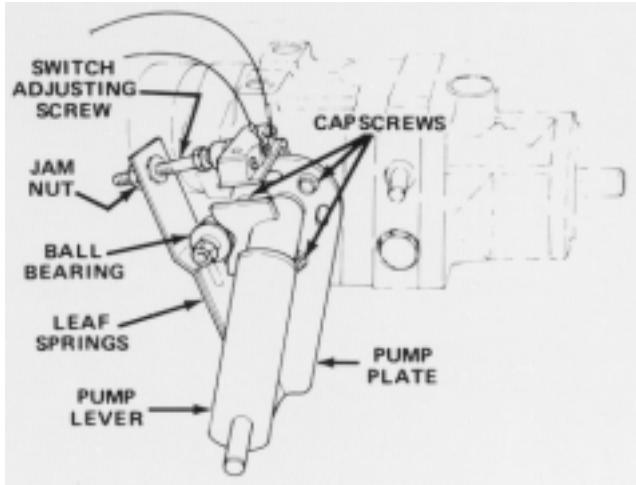

Figure 60
1. Park vehicle on a level surface and turn engine off. Apply the parking brake, tip seat forward, and actuate pump lever (Fig. 60) to ensure assembly is properly seated and operating freely. Correct any discrepancy.
6. Because the wheel is rotating, the pump plate must be adjusted. But before adjusting the pump plate, move throttle to SLOW. If wheel is rotating forward, loosen capscrews, and lightly tap bottom of pump plate counterclockwise (Fig. 60). By contrast, tap pump plate clockwise if wheel is rotating backward (Fig. 60). When
11. Because the wheel is rotating, the pump plate must be adjusted. But before adjusting the pump plate, move throttle to SLOW. If wheel is rotating forward, loosen capscrews, and lightly tap bottom of pump plate counterclockwise (Fig. 60). By contrast, tap pump plate clockwise if wheel is rotating backward (Fig. 60). When wheel stops rotating, tighten capscrews holding pump plate against side of transmission. Verify the adjustment with throttle in SLOW and FAST position.
- Ball bearing is loose or worn out (Fig. 60).
- Weak or damaged leaf springs (Fig. 60). Replace.
2. Actuate the pump lever (Fig. 60) to ensure all parts are operating freely and seated properly.
3. Loosen jam nut. Rotate switch adjusting screw (Fig. 60) until there is a gap between head of screw and switch button.